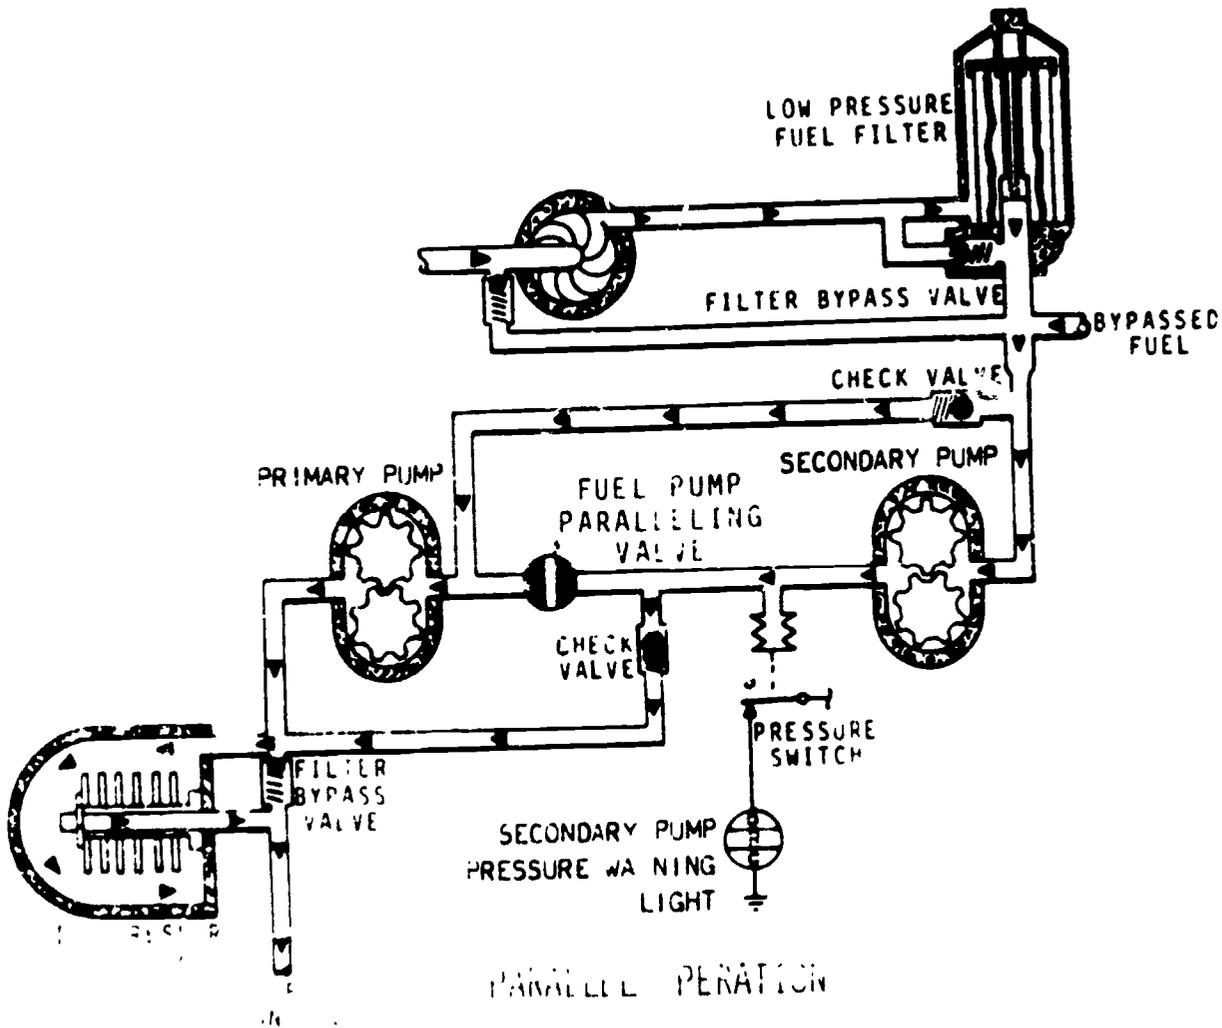

Figure 6. Parallel Operation.
15. Each pump has a separate fuel flow path in parallel operation. Name the components in the order in which fuel flows through each pump (see figure 6):